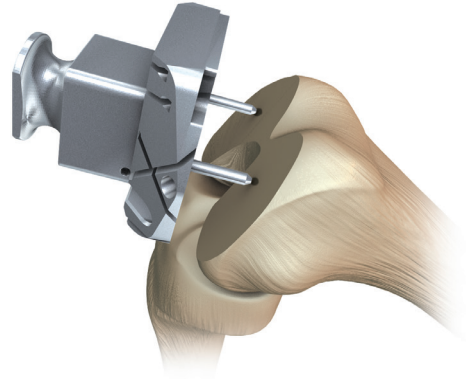

Figure 28
1. Position the spikes on the DCF A/P Femoral Block into the pre-drilled holes (Figure 28). Use the Mallet to impact the A/P Block assembly until the block is flush with the resected distal femur. Remove the A/P Block Impactor.